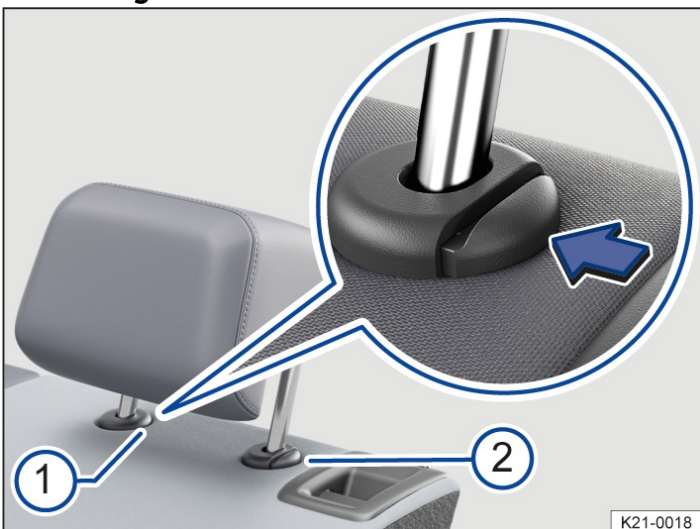

Fig. 2 Illustration: removing rear head restraint.
3. Press button → Fig. 2 1 on the head restraint guide.